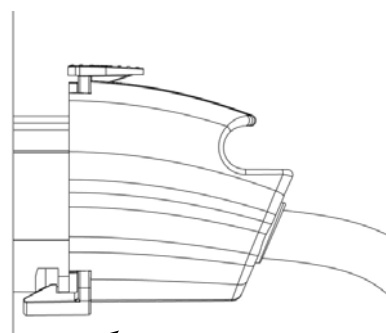

Fig. 3
- Fig. 3 Connecting EP1642 to Truma Ultraflow Socket